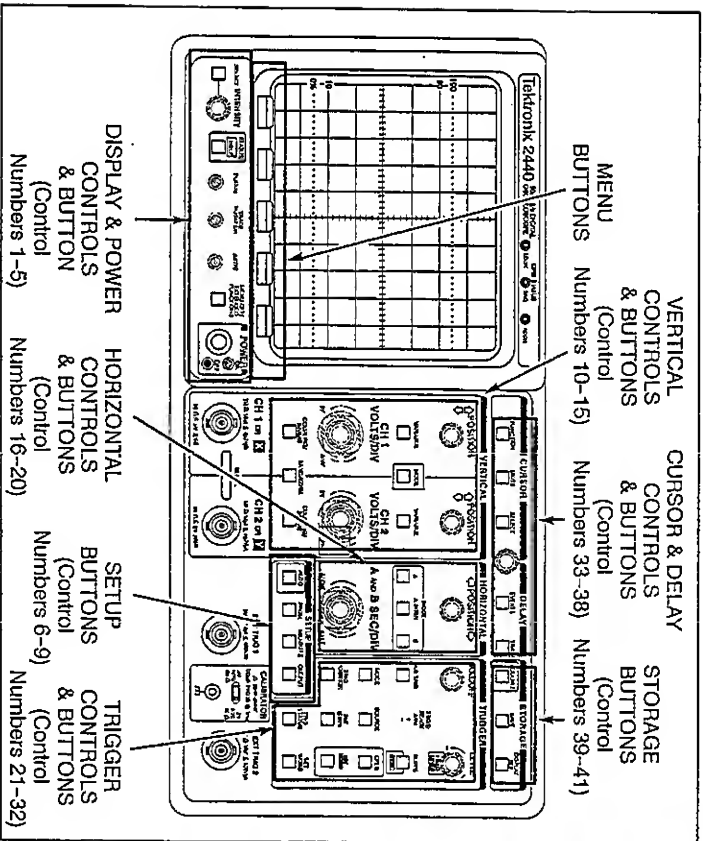

Figure 1: Front Panel buttons and Controls.
For help in locating the controls, see Figure 1, Front-Panel Buttons and Controls on page 8.
Use Figure 1 to locate any front-panel control or button of interest. The figure identifies the front-panel section (Vertical, Storage, etc.) in which each control or button is found. Control number 1 will be described first in this guide (look for a ①) followed by control number 2, etc. When a button calls up a menu, that menu will be shown with the appropriate button.